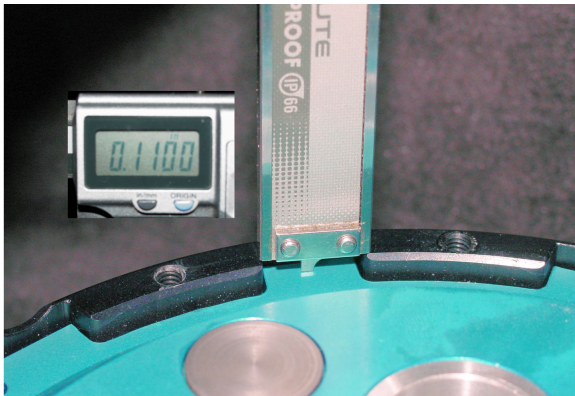
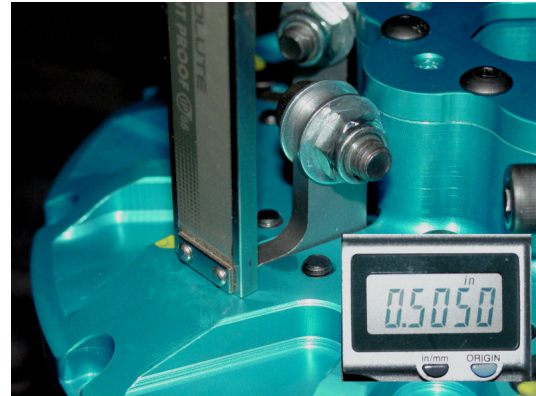

Fig. 1
Fig. 2
- E. Install the friction and metal plates the same way as with the stock procedure, **start with a thick (.151") fiber**, then steel, then fiber, then steel, continue until you end with a fiber. The V-Rod Gen II clutch has (7) steels (5 thin steels-.079", 2 thick steel-.091") and (8) fiber (6 thick fibers-.151", 2 thin fibers-0.119") plates. The total clutch pack should be approximately 1.719".
- F. Insert the pressure plate on top of the last fiber. The height from the top of the tang, on the pressure plate to the top of the basket should be approximately 0.110" (See Fig. 1). This will give you an air gap below your arms to the buttons of 0.110".
- G. Place the hat assembly on the basket and tighten the twelve (12) allen head cap screws to secure it.
- H. The air gap between the arms and the pressure plate buttons can be measured using the thin bottom section of a caliper. Stick the caliper rod into the slot opening just behind the arm (See Fig. 2) until it hits the top of the button on the pressure plate. Take a height reading to the top of the Gen II hat, this reading should be between 0.490"-0.510". This gives an air gap of 0.100"-0.120". It is better to start with an air gap of 0.100" to compensate for clutch wear. This technique can be used to maintain the air gap, after repeated runs, without removing any part of the clutch.